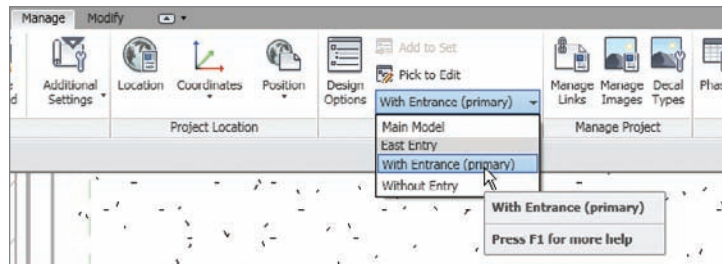

FIGURE 21.27 Making the design option current
1. On the Design Options panel of the Manage tab, click the Active Design Option menu, and select With Entrance (Primary), as shown in Figure 21.27. (This that you are making this option current.)